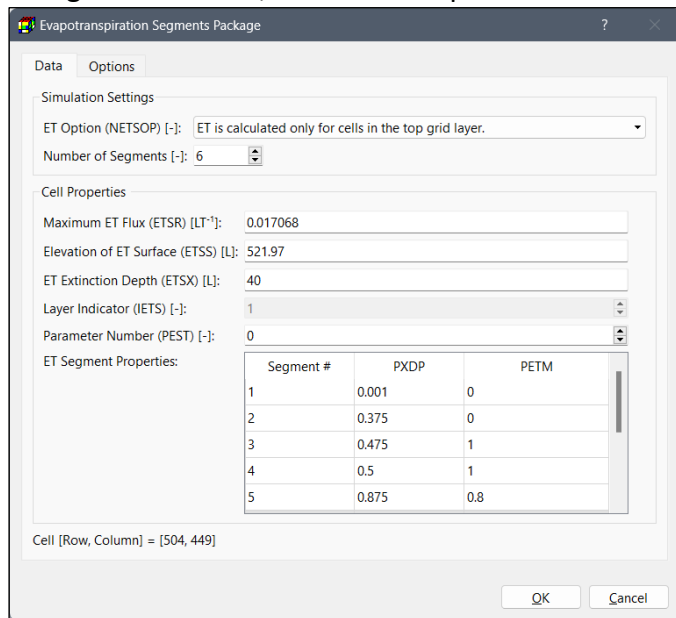

Figure 59. The Evapotranspiration Segments Package dialog box
1. All input methods: Figure 59 shows the dialog box for specifying cell, vertex, or polygon properties.